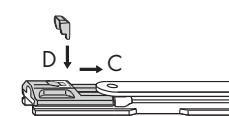

Figure 2
- C** Release the anti-lift device of the stop (10) (Figure 2).
- D** Insert barrier (9) in provided groove and snap into place (Figure 2).